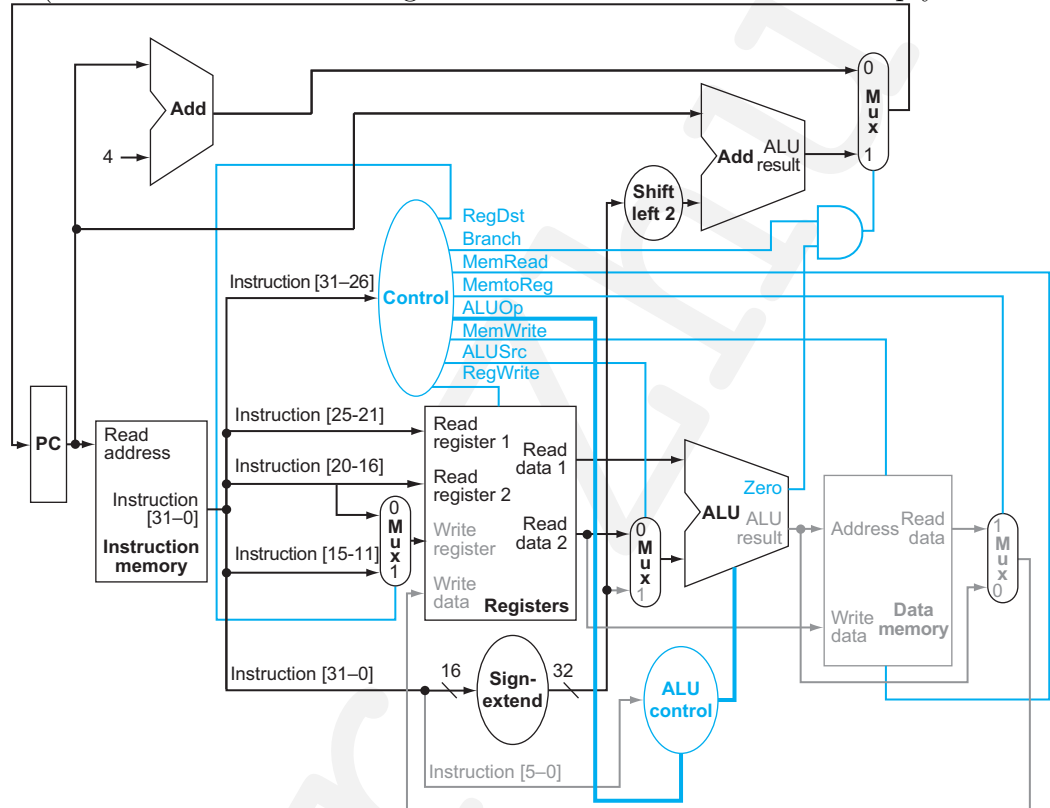

Figure 4.21 The datapath in operation for a branch-on-equal instruction.
Exercise 4.8 Suppose you could build a CPU where the clock cycle time was different for each instruction. What would the speedup of this new CPU be over the CPU presented in Figure 4.21 given the instruction mix below?
Exercise 4.9 Consider the addition of a multiplier to the CPU shown in Figure 4.21. This addition will add 300 ps to the latency of the ALU, but will reduce the number of instructions by 5% (because there will no longer be a need to emulate the multiply instruction).
4. Do you consider the original CPU (as shown in **Figure 4.21**) a better overall design; or do you consider the new CPU a better overall design? Why?